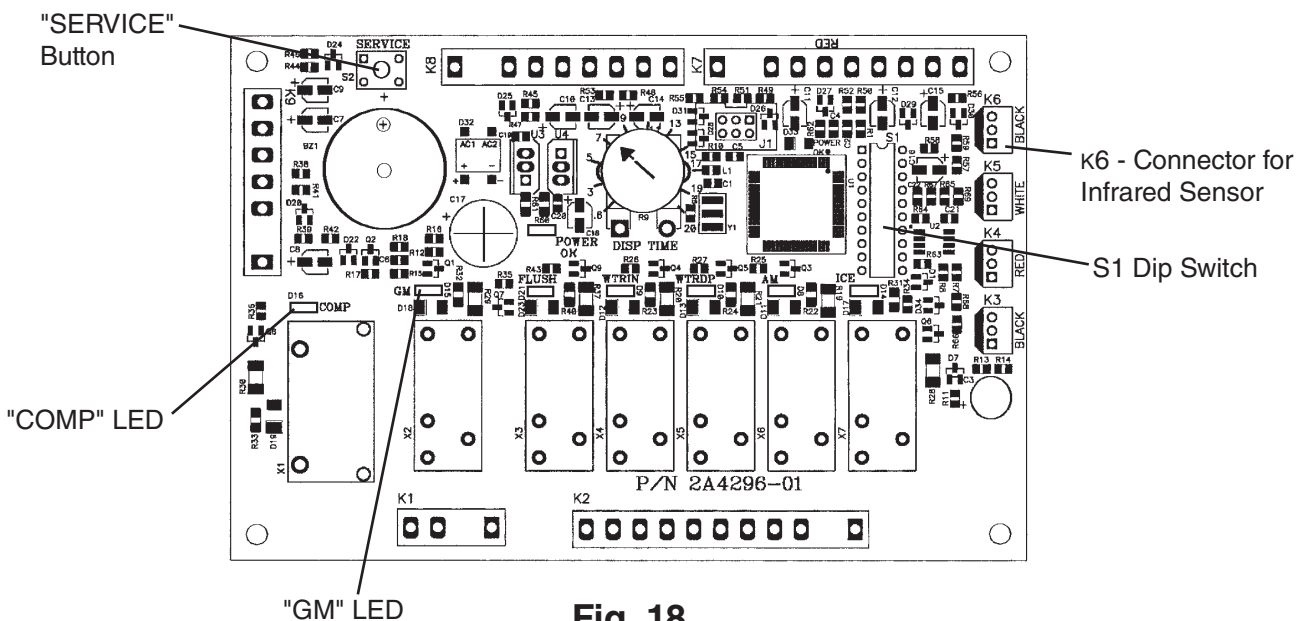

Fig. 18
- 6) Make sure the "GM" LED on the control board is on. See Fig. 18. There is a delay of at least 30 seconds before the "GM" LED turns on after power-up. After the "GM" LED turns on, press the "SERVICE" button on the control board to bypass the 5-minute compressor delay. **WARNING! Risk of electric shock. Care should be taken not to touch live terminals.** Confirm the "COMP" LED turns on.